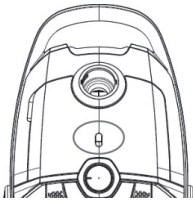

Fig. 10
1. Change the dust bag: when the dust full indicator turns red or loss of suction is noticed, it is time to clear the dust bag or replace with a new bag. (Fig 10)